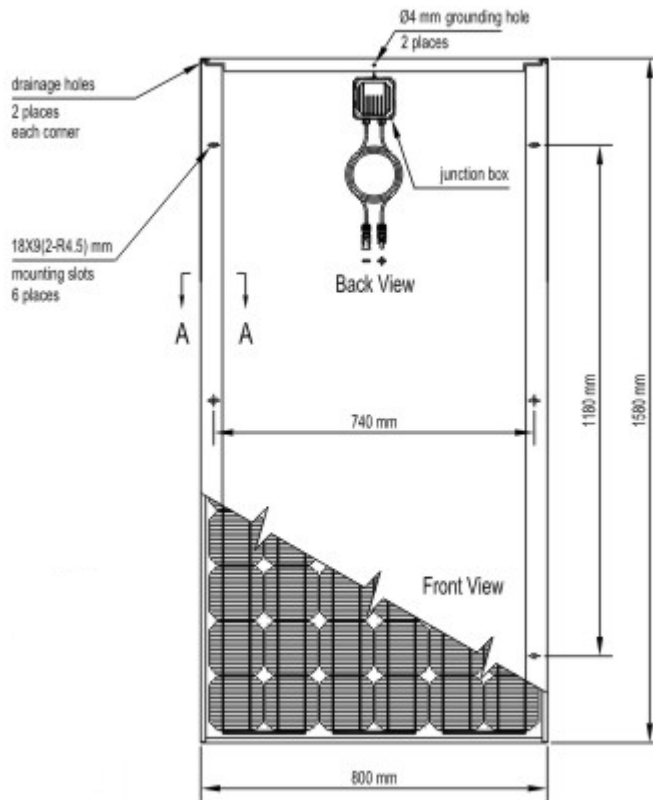

Fig. 5
- ① Each module has two grounding holes (see Fig.5). The symbol is located adjacent to the terminal.